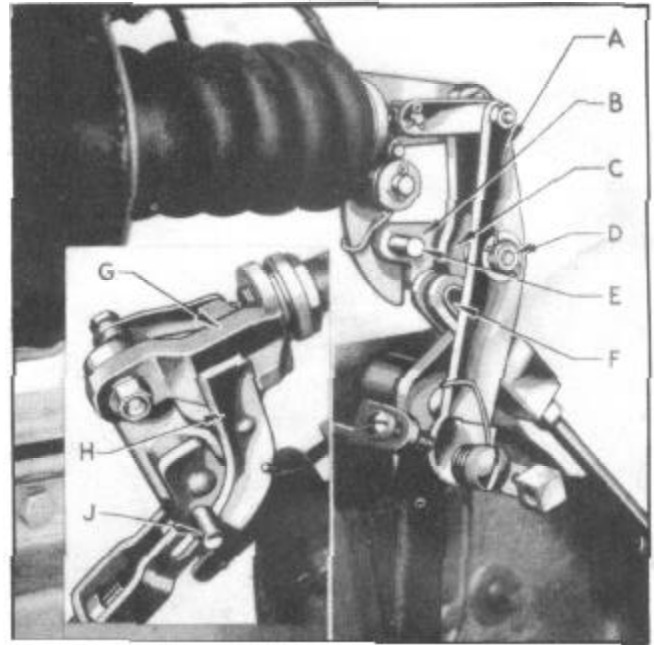

Figure 11--Clutch Compensator
Two rates of clutch engagement are provided automatically. This is necessary because of the cork inserts becoming covered with clutch lubricant after the engine has stopped. Attached to the bell crank (C), Figure 11, is a two position compensation lever (B) which turns the eccentric pivot (D) changing the relation of the valve lever (A) with respect to its pivot point on bell crank (C).
(F) strikes pin (E) and swings the lever (B) forward and upward as shown in Figure 11. This moves the center of the valve lever pivot forward and permits the clutch to engage farther to compensate for the cork inserts being covered with oil.
As soon as the clutch is automatically engaged after the first shift in high gear has taken place the trip lever (H) mounted on the piston rod end (G) will engage pin (J) and the compensator lever will be rotated back to a position for normal driving, as shown in inset, Figure 11.